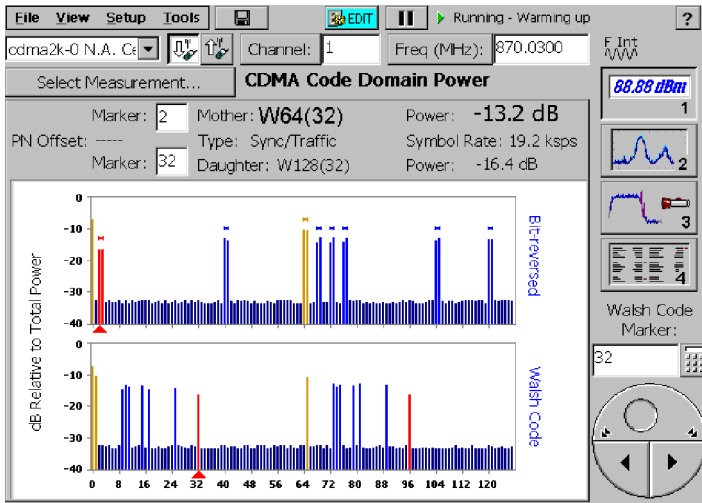

Figure 3-50: cdma2000 Code Domain Power display
5. Tap **Code Power**. See Figure 3-50.